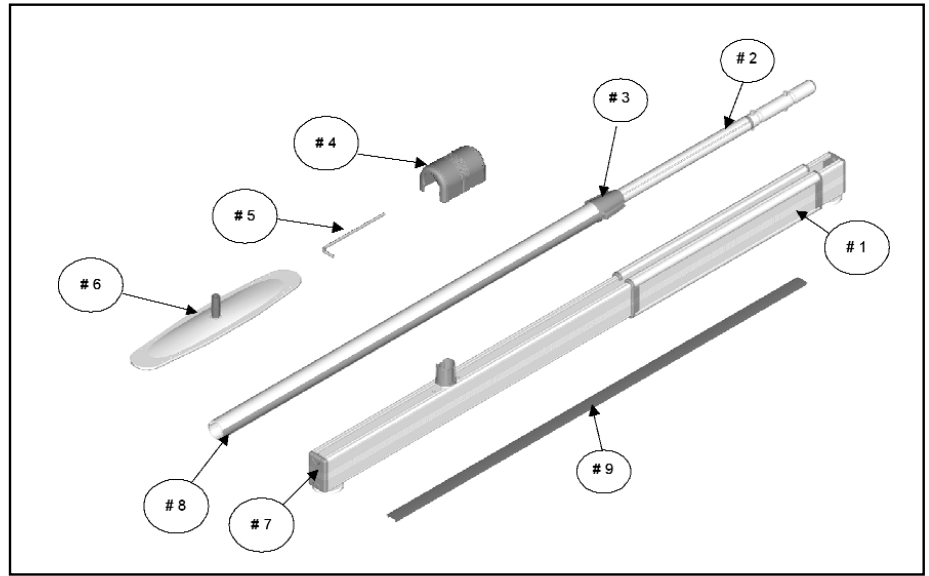

Figure 1
(FIGURE 1)**
1. Make sure you received all components listed in Figure 1.